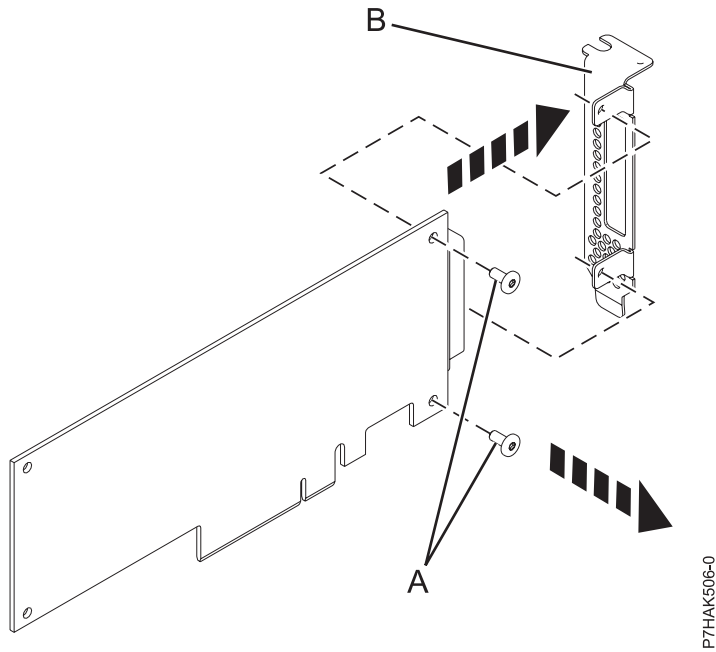

Figure 31. Removing the low-profile tailstock from a failed PCI adapter
4. Using a Phillips screwdriver, unscrew the two screws **(A)** that attach the tailstock **(B)** to the failed PCI adapter, as shown in Figure 31 on page 40.